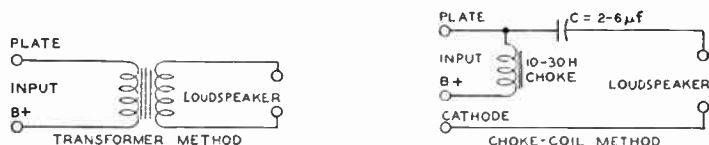

Fig. 72
Output-coupling devices are of two types, (1) choke-capacitor and (2) transformer. The choke-capacitor type includes an iron-core choke with an inductance of not less than 10 henrys which is placed in series with the plate and B-supply. The choke offers a very low resistance to the dc plate current component of the signal voltage but opposes the flow of the fluctuating component. A bypass capacitor of 2 to 6 μf supplies a path to the speaker winding for the signal voltage. The transformer type is constructed with two separate windings, a primary and a secondary wound on an iron core. This construction permits designing each winding to meet the requirements of its position in the circuit. Typical arrangements of each type of coupling device are shown in Fig. 72. Examples of transformers for push-pull stages are shown in several of the circuits given in the **CIRCUIT SECTION**.